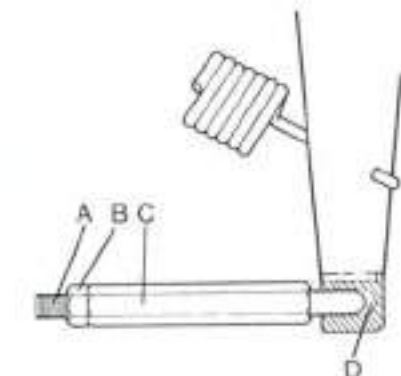

Fig. 156—View showing transmission clutch adjustment linkage for 1490 low profile tractors.
212. Transmission clutch free travel should be 4 mm ($\frac{1}{8}$ inch) measured at "D" (Fig. 156) between adjusting sleeve (C) and cross-shaft lever. Loosen locknut (B) and turn adjusting sleeve (C) on slave cylinder push rod (A) as necessary.